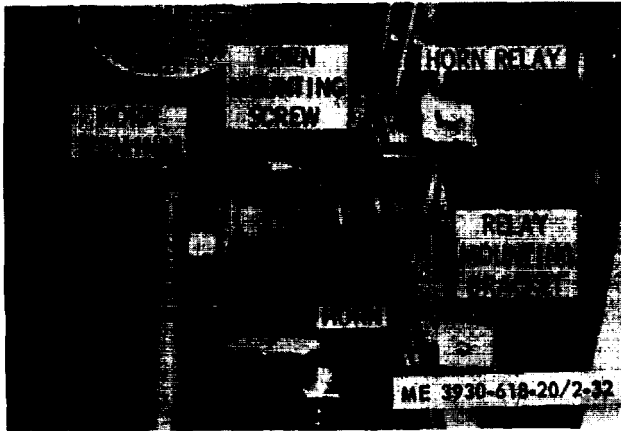

Figure 2-32. Horn and horn relay. installed view.
(2) If the horn signal is weak and the voltage at the horn terminal is normal, attempt to increase volume with the volume adjusting screw in the horn cover. Turn the screw in to increase volume : out to decrease volume.
(3) If a defective horn relay is indicated: check for proper airgap, point opening, and closing voltage before replacing the relay. Correct settings are as follows :
c. *Removal.* Refer to figure 2-32 and remove the horn and horn relay as follows:
- (1) Remove the toe plate.
- (2) Disconnect all wires at the horn and the horn relay.
(3) Remove the nut washer, securing the horn mounting bracket, and remove the horn.
(4) Remove the screw, nut, and washer attaching the horn relay and remove the relay.